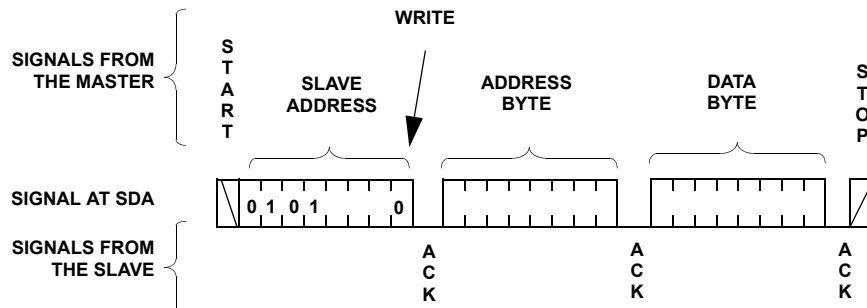
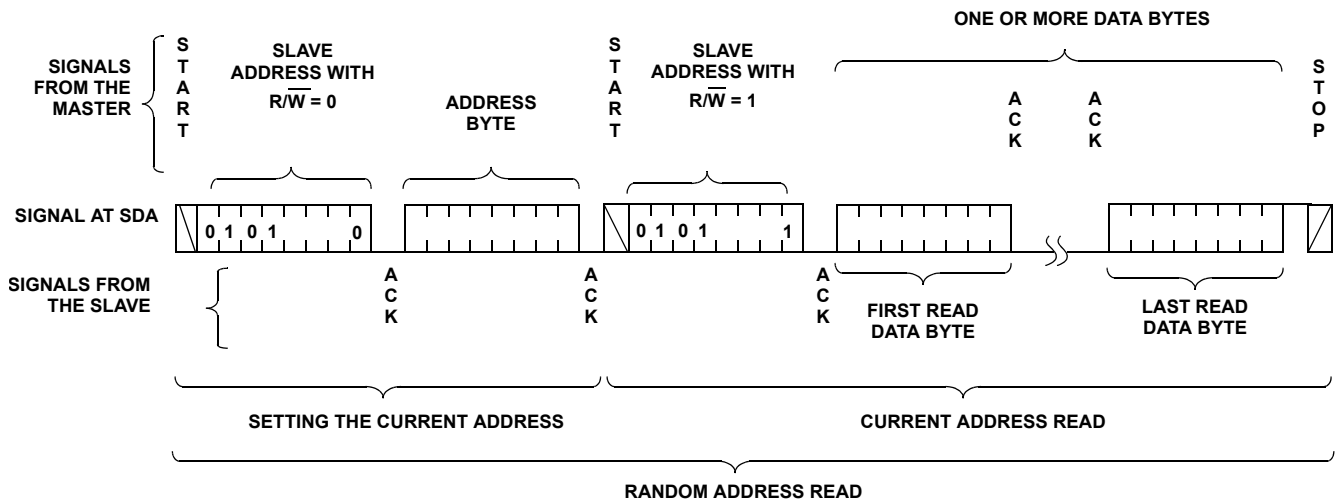

FIGURE 7. BYTE WRITE SEQUENCE
FIGURE 9. MOVE/READ SEQUENCE
14. Access the desired DR or WCR using a new write or read command (see Figure 7 for write and Figure 9 for read.)
For any Byte Write operation, the X9252 requires the Slave Address byte, an Address Byte, and a Data Byte (see Figure 7). After each of them, the X9252 responds with an ACK. The master then terminates the transfer by generating a STOP condition. At this time, if the write operation is to a volatile register (WCR, or SR), the X9252 is ready for the next read or write operation. If the write operation is to a nonvolatile register (DR), and the WP pin is high, the X9252 begins the internal write cycle to the nonvolatile memory. During the internal nonvolatile write cycle, the X9252 does not respond to any requests from the master. The SDA output is at high impedance.
The Move/Read operation simultaneously reads the contents of a Data Register (DR) and moves the contents into the corresponding DCP's WCR and the WCRs of all DCPs are updated with the content of their corresponding DR. Move/Read operation consists of a one byte, or three byte instruction followed by one or more Data Bytes (see Figure 9). To read an arbitrary byte, the master initiates the operation issuing the following sequence: a START, the Slave Address byte with the R/W bit set to "0", an Address Byte, a second START, and a second Slave Address byte with the R/W bit set to "1". After each of the three bytes, the X9252 responds with an ACK. Then the X9252 transmits Data Bytes